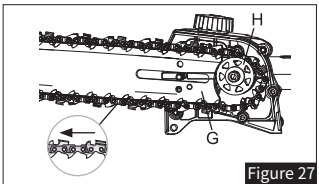

Figure 27
- Important:** Ensure the cutting teeth on the saw chain are facing the correct direction (See Figure 27 for orientation).
- Insert the end of the guide bar into the mounting slot at the gear unit. Ensure the bar is correctly hooked onto the chain tensioning bolt (Figure 27, Item G).
- Pull the saw chain around the chain wheel (Figure 27, Item H).